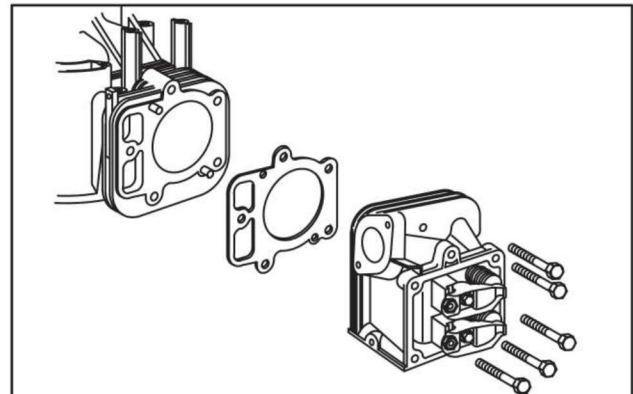

Fig. 8 – Remove Cylinder Head
9. Remove cylinder heads and discard gaskets, Fig. 8.